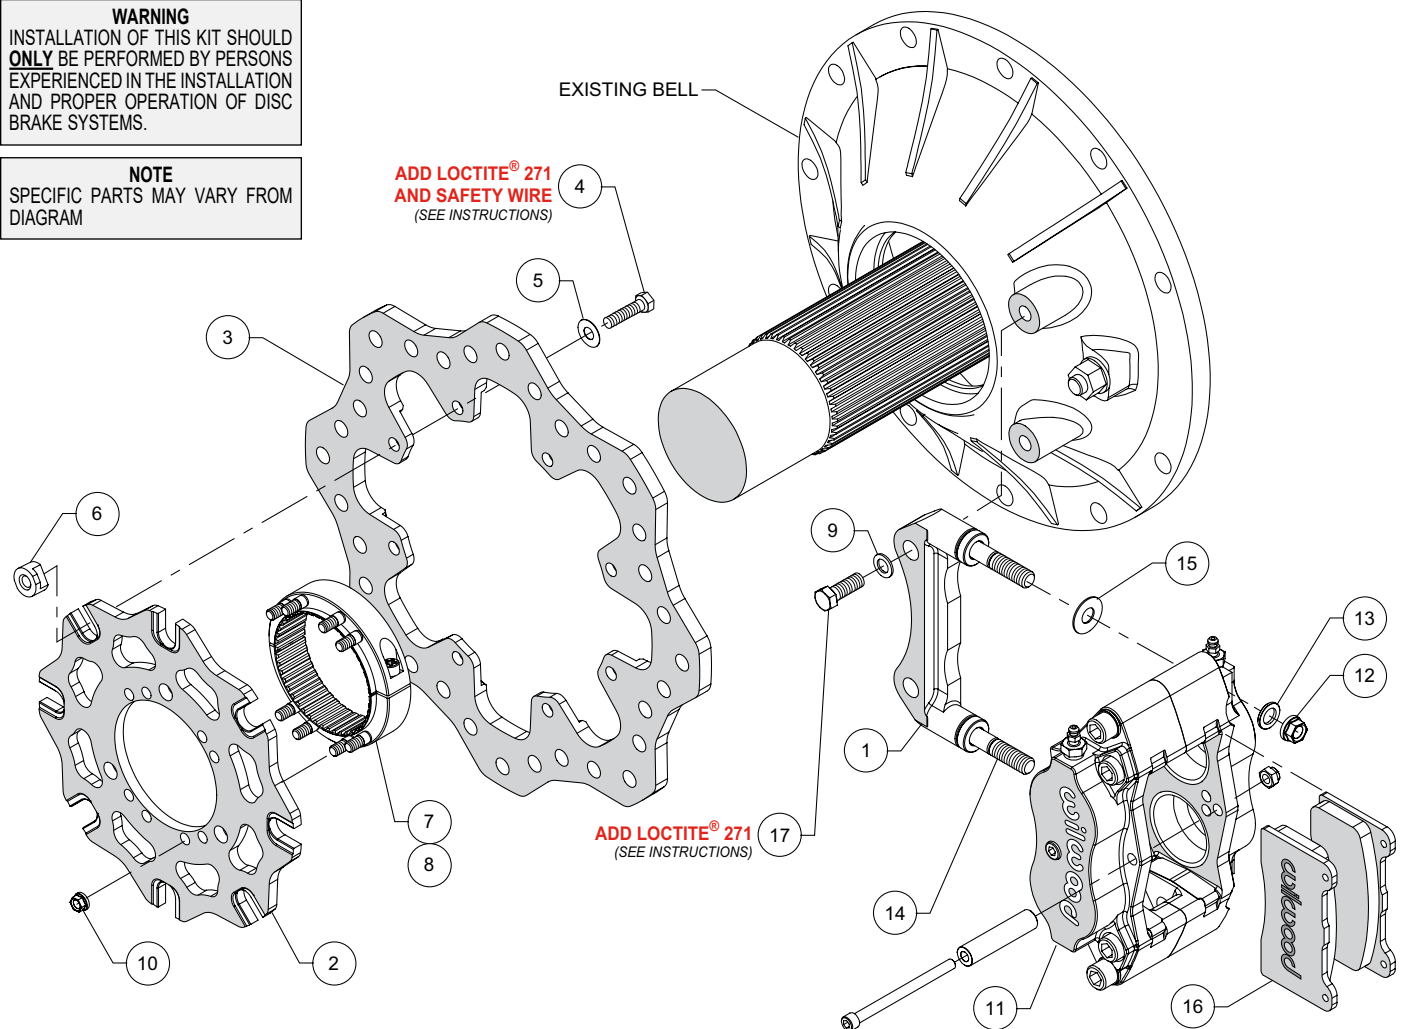

Figure 1. Typical Installation Configuration
• Orient the caliper mount bracket (1) as shown in Figure 1 and install using bolts (17) and washers (9). Temporarily tighten the mounting bolts. **NOTE:** The bracket must fit squarely against the mount bosses on the bell. Inspect for interference from casting irregularities, machining ridges, burrs, etc. Remove the bracket mounting bolts one at a time, apply red *Loctite*® 271 to the threads, and torque to 60 ft-lb.
• Orient the rotor adapter (2) and the rotor (3), as shown in Figure 1, and attach using bolts (4), washers (5) and t-nuts (6), Figure 1. Apply red *Loctite*® 271 to the bolt threads before installing. Finger tighten. After all t-nuts have been installed, torque bolts to 220 **in-lbs** using a criss-cross pattern. Please refer to Wilwood's data sheet DS-669 (available at [www.wilwood.com/Pdf/DataSheets/ds669.pdf](http://www.wilwood.com/Pdf/DataSheets/ds669.pdf)) for complete t-nut bolt kit installation instructions. **NOTE:** Rotor adapter may be fix mounted to rotor (instead of floating mount) using customer supplied hardware.
- Orient the axle clamp assembly (7 and 8, pre-assembled) as shown in Figure 1 and install onto the rotor adapter (2) using nuts (10). Tighten nuts part way while still allowing clamp-to-adapter movement. The nuts will be torqued later, after aligning the rotor. **NOTE:** *The axle clamp should be positioned inside of the rotor as shown, not offset, or outside of the rotor adapter.*
- Initially place one .030" thick shim (15) on each stud (14) as shown in Figure 1. Mount the caliper (11) onto the bracket (1) using lock nuts (12) and washers (13), Figure 1. Temporarily tighten the lock nuts (12) and view the rotor through the top opening of the caliper. The rotor should be centered in the caliper. If not, slide the rotor/adapter assembly on the axle until the rotor is centered in the caliper. Tighten the clamp nuts first, locking the clamp to the axle. Torque nuts (10) to 140 **in-lbs**.
- Remove the caliper center bridge pad retainer bolt, nut, and tube from the caliper. Insert the brake pads (16) into the caliper, with the friction material facing the rotor. Check that the top of the brake pad is flush with the outside diameter of the rotor. If not, adjust by adding or subtracting shims (15) between the caliper and the bracket. After the caliper pad height is set, torque the caliper lock nuts (12) to 30 ft-lb. Secure the brake pads in place with the center bridge pad retainer tube, bolt, and locknut. The locknut should be snug without play in the bolt or tube. Be cautious not to over tighten.